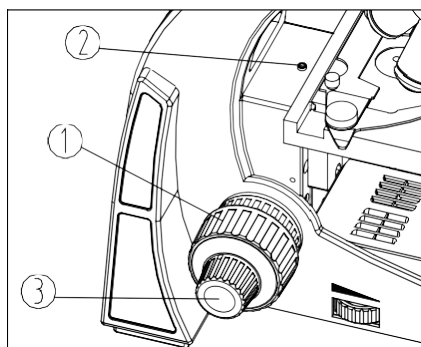

Fig.10
2. Observe specimen through the eyepieces. Rotate the coarse focusing knob ① until the image appears in focus in the view field (See Fig.10).
3. Rotate the fine focus knob ③ until the image is in clear focus.